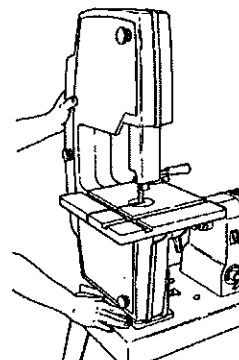

Fig.B-3
6. Unlock the carriage (21) by turning the handle (19) to the left. With your hands placed on the carriage and Bandsaw, slide the carriage toward the Power Station's drive shaft hub (31) until the coupler almost touches the hub. See Fig.B-3.
7. Lock the carriage by turning the handle (19) to the right.